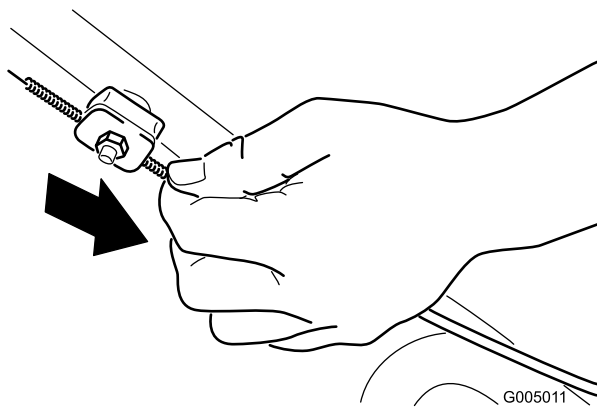

Figure 28
2. Pull down the cable jacket (toward the mower) until there is no slack in the cable (Figure 28).